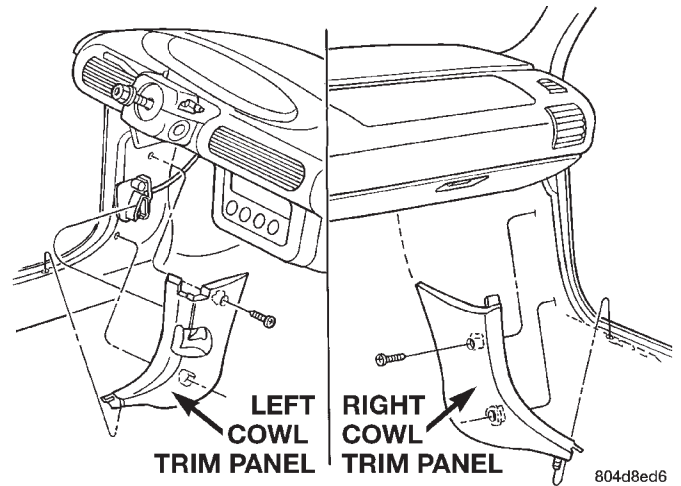

Fig. 51 Cowl Trim Panel
- (1) Remove door sill trim panel.
- (2) Remove screws holding cowl trim panel to inner cowl panel.
- (3) Separate cowl trim panel from vehicle (Fig. 51).